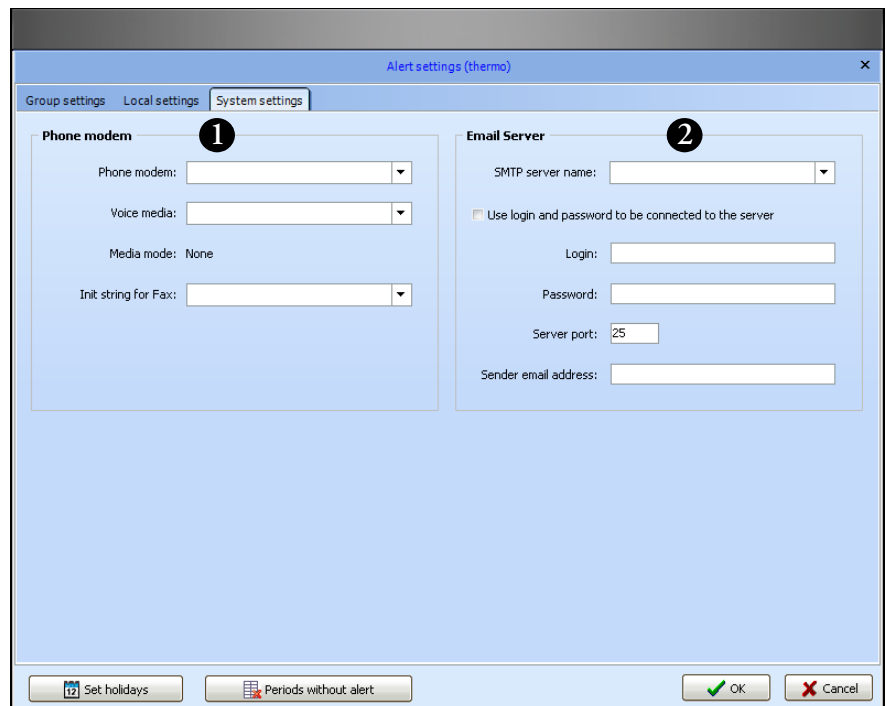

Figure 96. Alert system settings screen
1. **In the Phone modem section (#1 in Figure 96), select the telephone modem and associated voice media to be used for handling alerts. You may also enter initialization strings to use for fax and SMS (mobile phone text message) communications.**